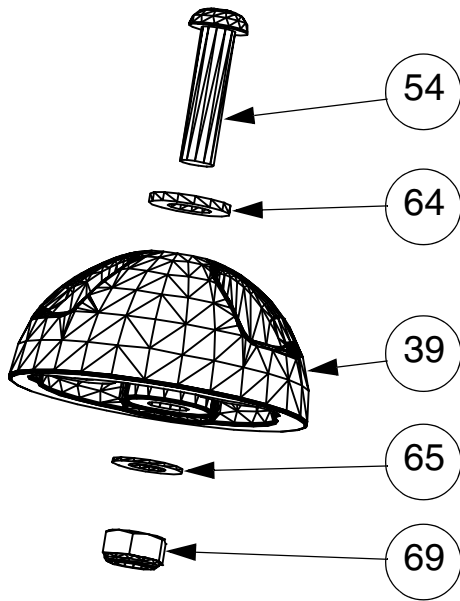

FIG.60
- 69) Assemble through center hole of 3 off Endcaps (item 39) 1 off M10 x 40 Resistorx bolt (item 54) 1off M12 Washer (item 64), 1 off M10 Washer (item 65) and 1 off M10 Nyloc nut (item 69). See FIG.60.